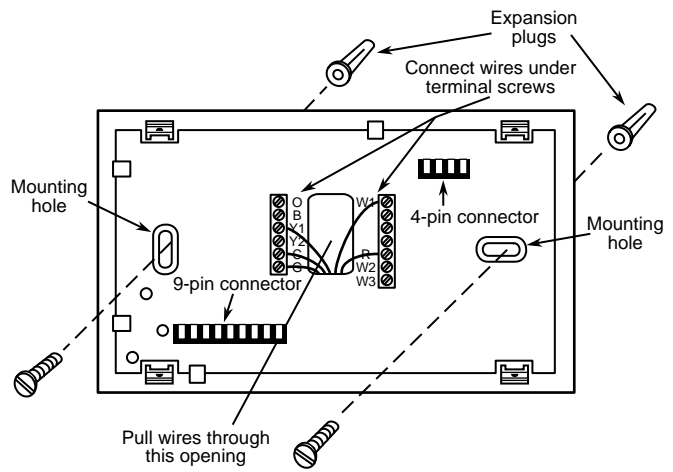

Figure 3. Subbase
2. Connect wires beneath terminal screws on subbase using wiring schematic (see figs. 3 through 6).
5. Fasten subbase loosely to wall, as shown in fig. 3, using two mounting screws. Place a level against bottom of subbase, adjust until level, and then tighten screws. (Leveling is for appearance only and will not affect thermostat operation.) If you are using existing mounting holes, or if holes drilled are too large and do not allow you to tighten subbase snugly, use plastic expansion plugs to secure subbase.